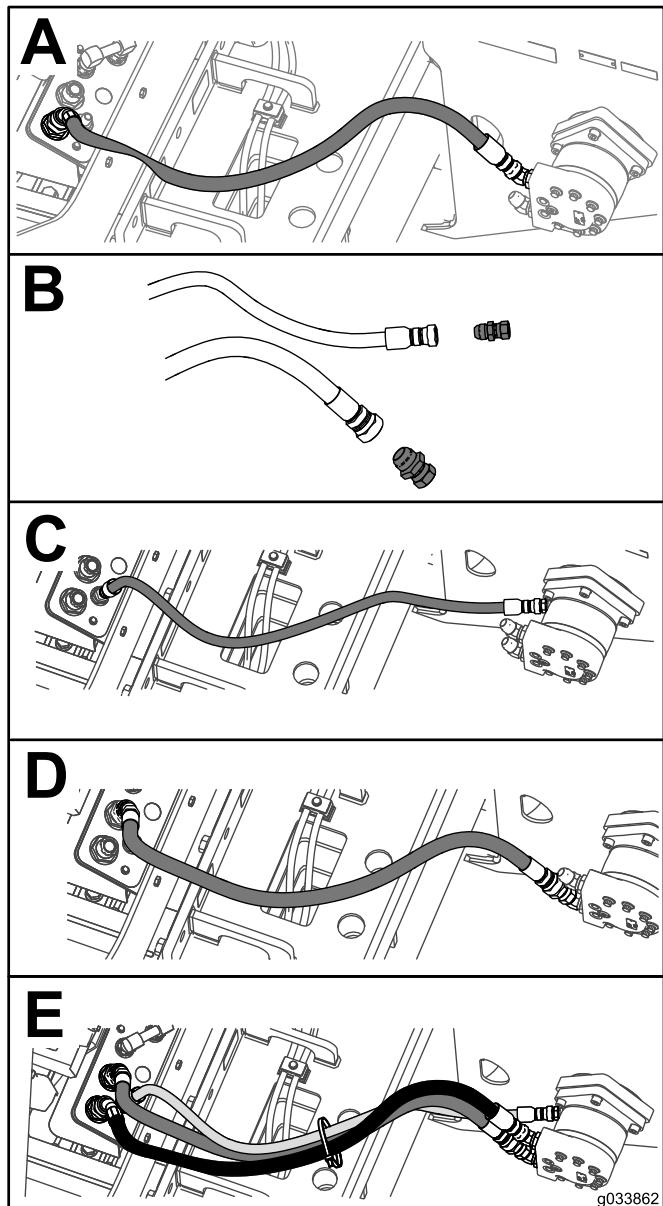

Figure 12
1. Install the 50-inch hose with the F12 fitting as shown in Box A of Figure 12.
4. Install the reducer adapter to the 50-inch hose with the F16 fitting as shown in Box B of Figure 12.
6. Install the other adapter to the 46-inch hose as shown in Box B of Figure 12.
8. Install the other 50-inch hose with the F16 fitting as shown in Box C of Figure 12.
11. Install the 46-inch hose as shown in Box D of Figure 12.
14. Secure the hoses with a cable tie (Box E of Figure 12).